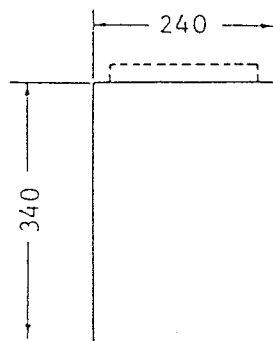
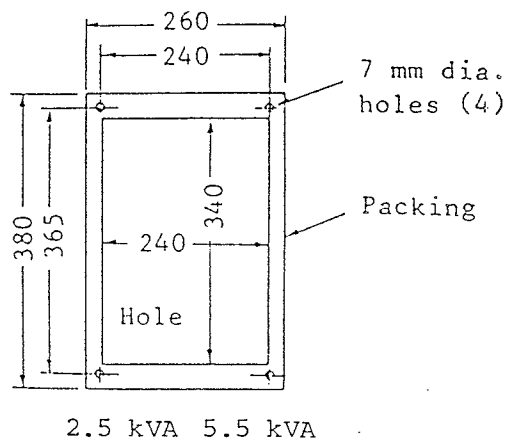

Figure 3 Panel cutting
Figure 4 Packing
- When installing the inverter in the control box, cut the panel as shown in Figure 3 and use the packing shown in Figure 4.